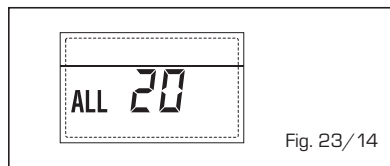

Fig. 23/14
- ANOMALIE PANNE SONDE REFOULEMENT PREMIERE ZONE MIXTE "ALL 21" (fig. 23/15)